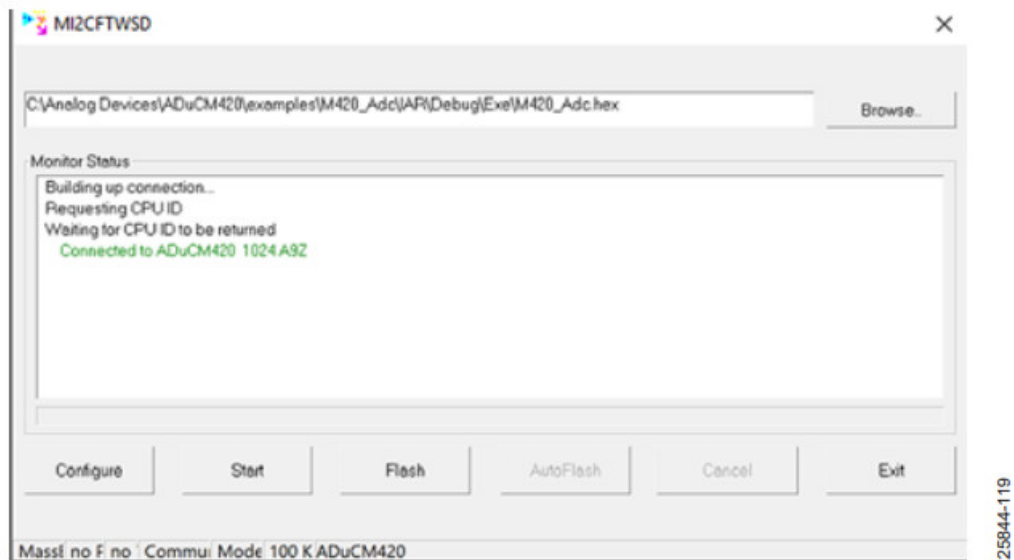

Figure 22. I²C Connection Established
5. On the EVAL-ADUCM420QSP1Z board, press the SERIAL_DOWNLOAD button and pulse the RESET button to set up the device in I2C download mode. Click the Start button in the MI2CFTWSD window. If the I2C connection is established, the status shows the ADuCM420 is connected, as shown in Figure 22